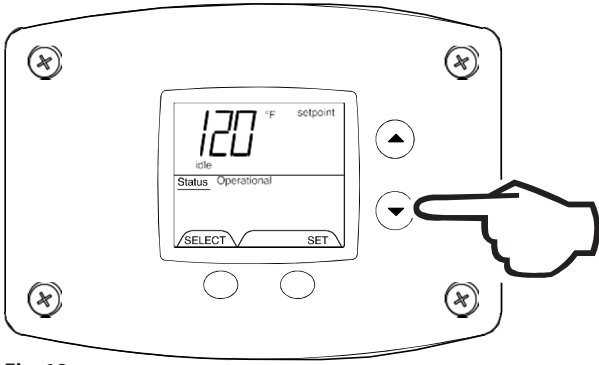

Fig. 19
1. Depress and hold 'Temperature Down' button until desired setpoint temperature appears in the display (Fig. 19).